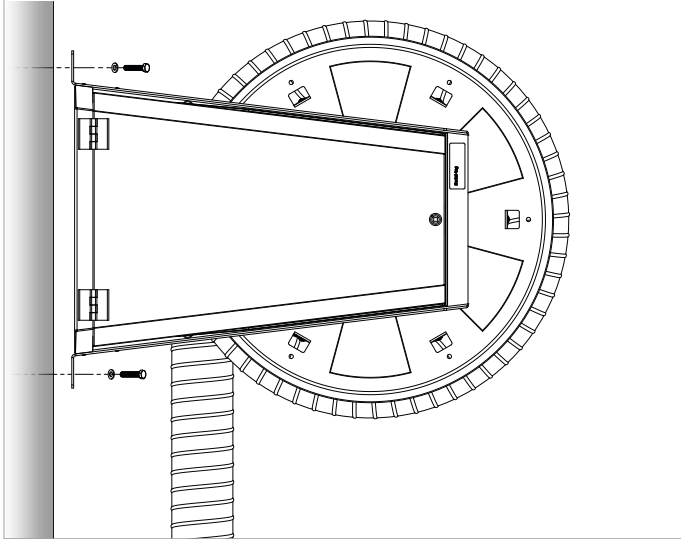

Fig. 4.5 MHR mounting on wall
- a steel profile (e.g. H-profile), using four threaded rods M12. For this purpose two square tubes (30x30x3 mm (1.2x1.2x0.1 in.)) need to be mounted to prevent bending. Refer to fig. 4.5 below.